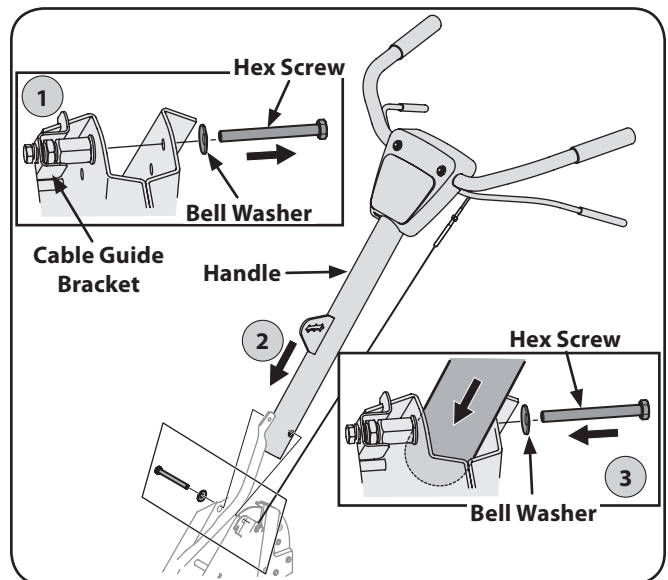

Figure 3-3
3. Remove the hex screw and bell washer from the right side of the frame. Hold the cable guide bracket on the left side of frame as it will fall when the bolt is removed. Step 1 in Fig. 3-3.
4. Insert the handle into tiller frame as shown. Step 2 in Fig. 3-3.
5. Insert the bolt through the cupped washer, frame, handle and into the cable guide bracket (note the notch in the cable guide bracket goes over the flange on the frame.) Step 3 in Fig. 3-3.